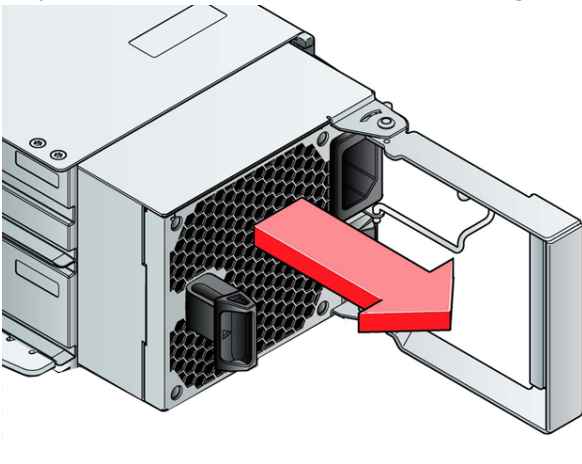

Figure 6-2 - Removing a PCM (2)
4. Grip the handle and withdraw the PCM. (Figure 6-2).